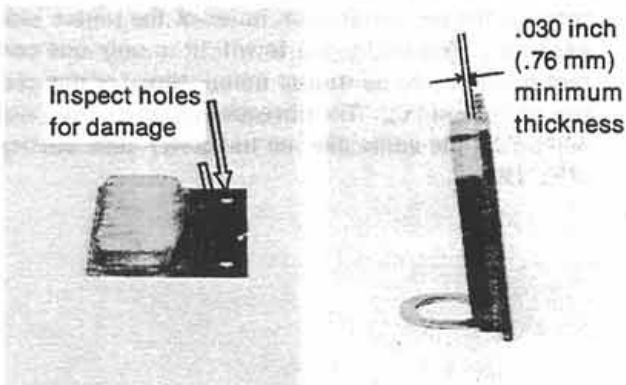

Figure 13:
5. If the brake pads are worn to less than .030 inch (.76 MM), worn unevenly or otherwise damaged, new brake pads must be installed (Fig. 13).